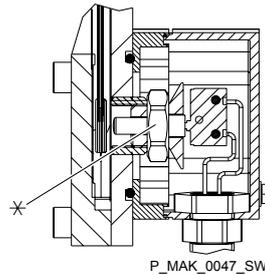

Fig. 24: Cross-section through the diaphragm rupture warning system
9. ▶ Only drain the hydraulic oil from the hydraulic end via the clear acrylic plug (3) - see  on page 41.
10. ▶ Remove the protective cover (5) from the backplate (6).
11. ▶ Screw the clear acrylic plug (3) back in and tighten slightly.
12. ▶ Remove the orange cover from the diaphragm rupture warning system by undoing the screws - see Fig. 24.
13. ▶ Undo the 6 nuts (1) at the liquid end (oil trough?).
- 28.** Clean the outside of the bleed valve (5) with compressed air.
- 30.** Screw in the bleed valve (5).
- 31.** Plug on the bleed hose (4).
- 34.** Screw out the diaphragm rupture sensor by a couple of turns - see Fig. 24.